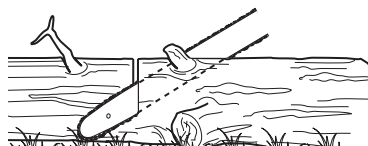

Fig. 40
- > Follow the simple directions for easy cutting. When the log is supported along its entire length (Fig. 40), it is cut from the top (overbuck).